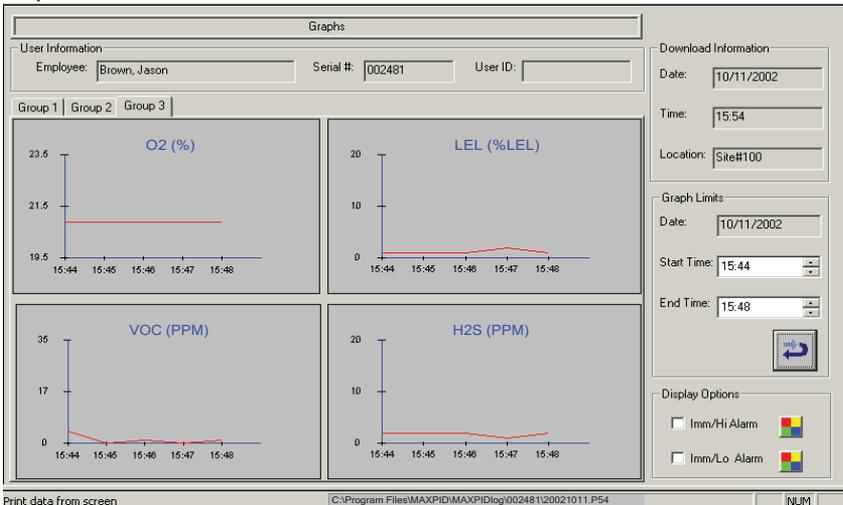

Figure 8 - Graph Screen
Information on the Graph Screen includes the following (See Figure 8):
- To display the graphs, click on the View menu and then on Graphs (or simply click on the View Graphs button on the toolbar of the Main Screen). A group of 4 curves will be displayed (See Figure 8).